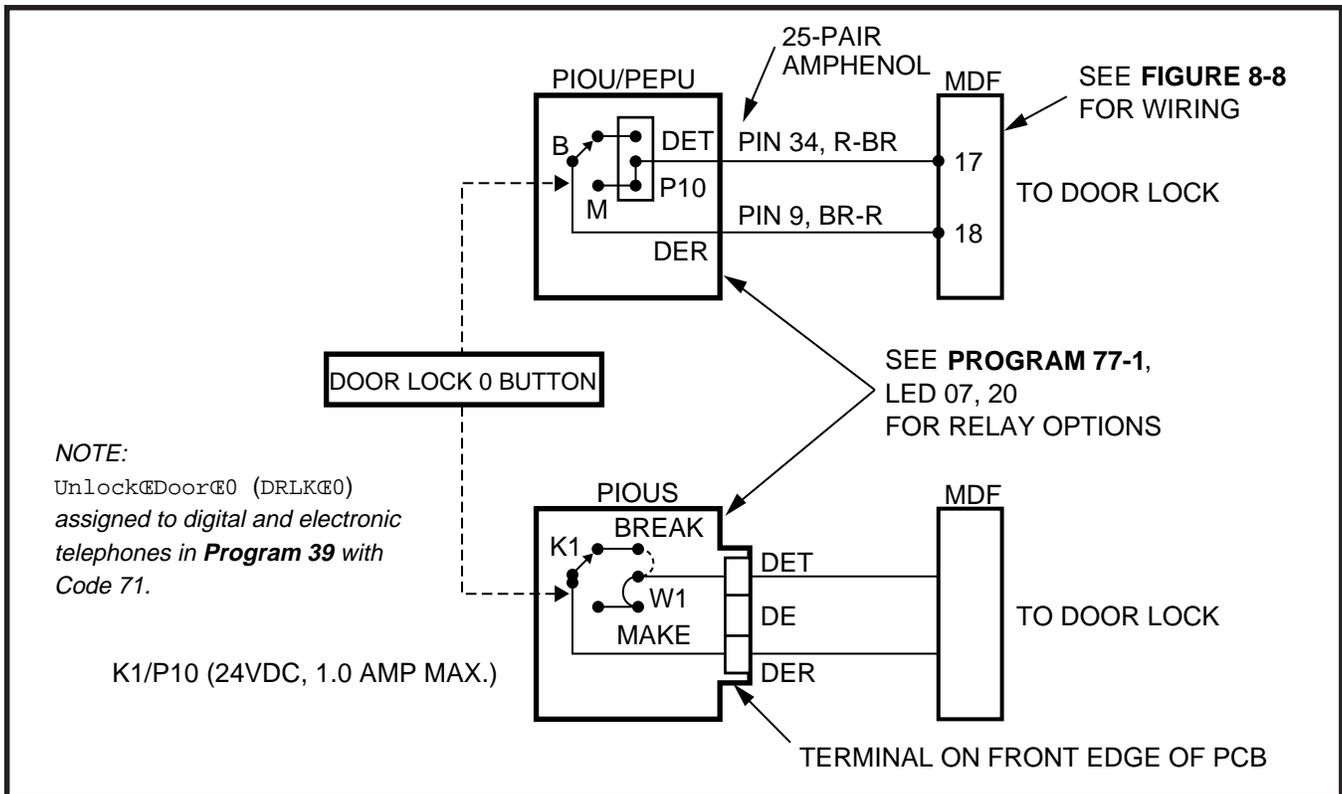

FIGURE 8-10
4.15 Door Lock Control (PIOU or PIOUS or PEPU). Configure the PIOU, PIOUS, or PEPU for the door lock control function in accordance with the following steps: (Refer to Figure 8-10.)
- 4) Refer to Figure 8-10 for wiring/interconnecting details. Connect the PIOU, PIOUS, or PEPU to the MDF as required for the door lock control function.